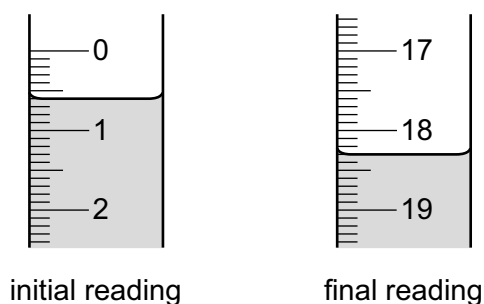
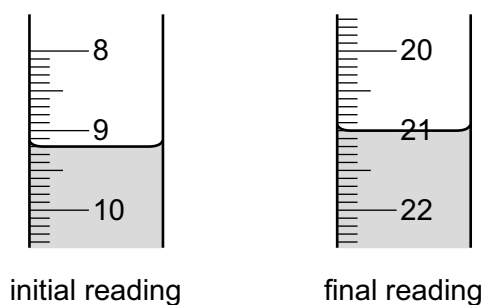

Fig. 2.1
Fig. 2.2
- (a) Use the burette diagrams in Fig. 2.1 and Fig. 2.2 to complete Table 2.1.